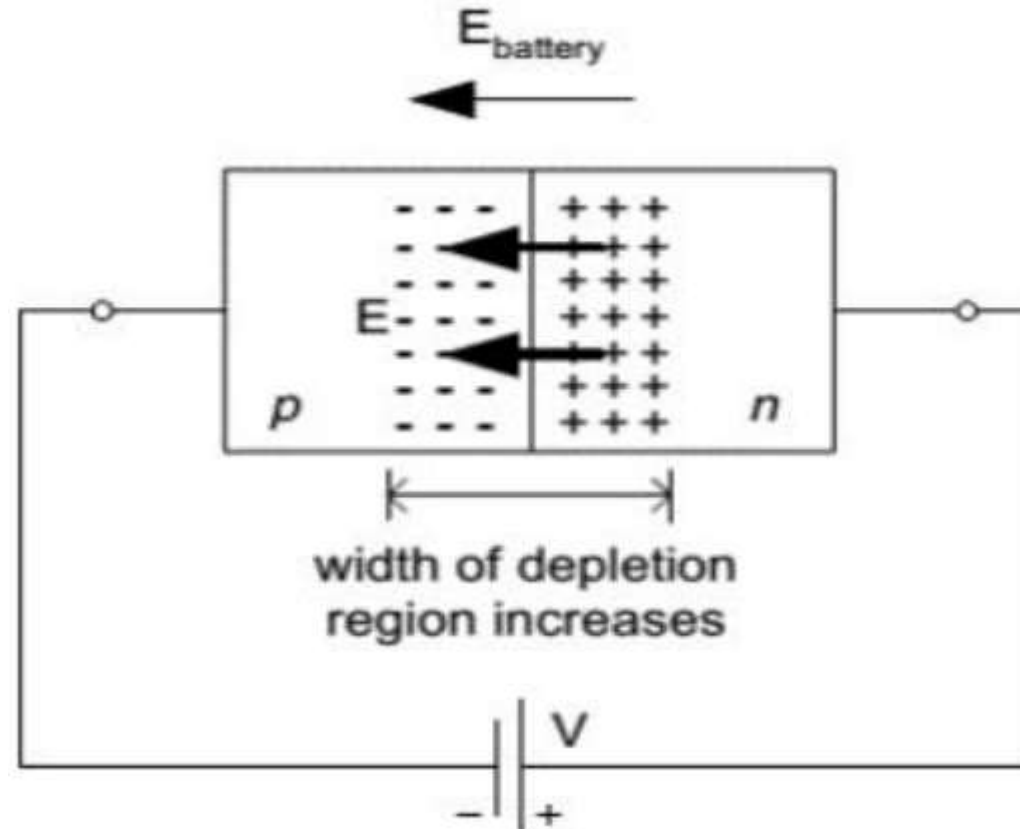

Fig. 2. Reverse Biasing
- Fig. 2 shows a dc voltage source connected to reverse-bias the diode.